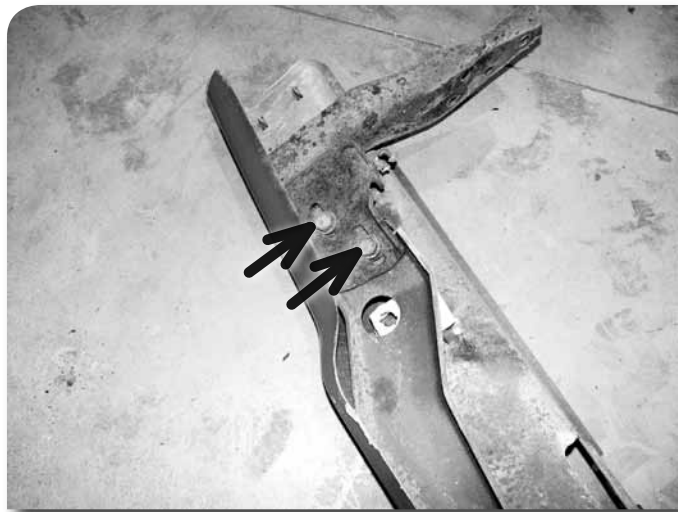

Figure 27
47. Remove the four bolts (two on a side) and the rear bumper bracket assemblies from the rear bumper **Figure 27**. Save bolts.